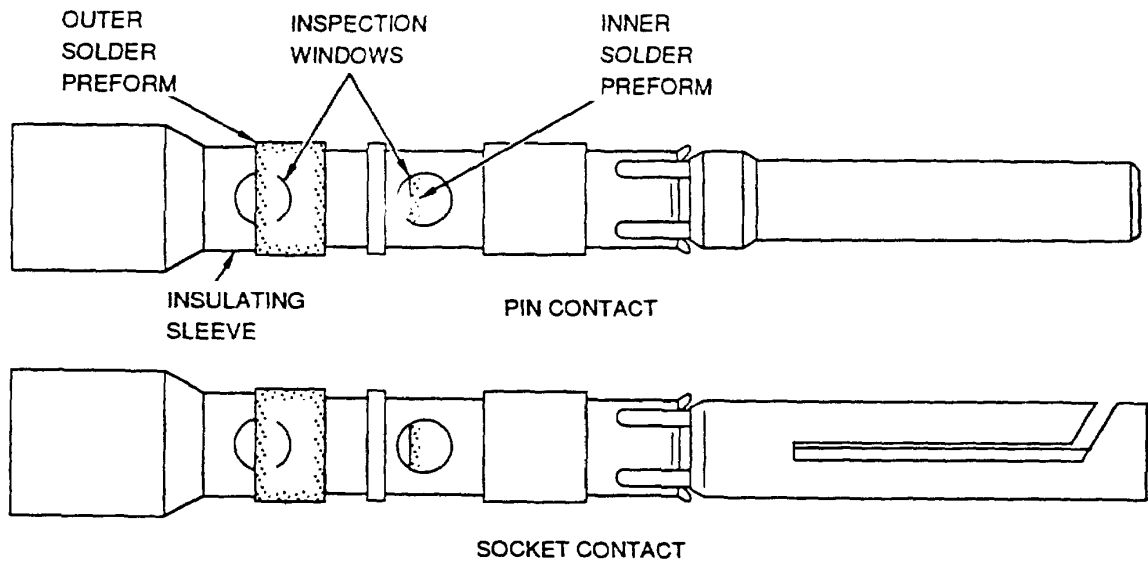

Figure 53. Typical Coaxial Solder Contact
- a. Insert signal lead into center insulating sleeve and ground lead into outer insulating sleeve. Ensure wires bottom in contact (Figure 53).